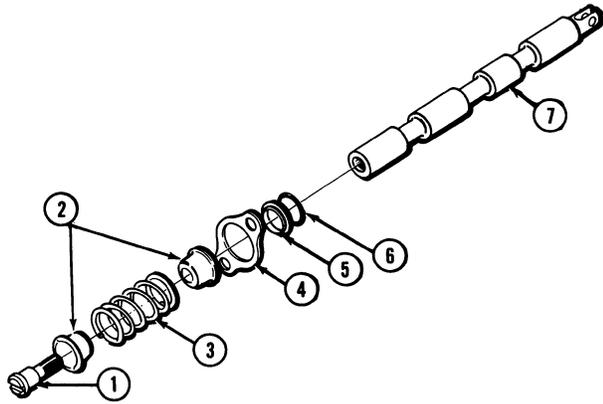

Figure 9
- Remove the cap screw and remove the spring seats (2), spring (3), seal plate (4), wiper (5) and O-ring (6) from the spool (7), Figure 9.